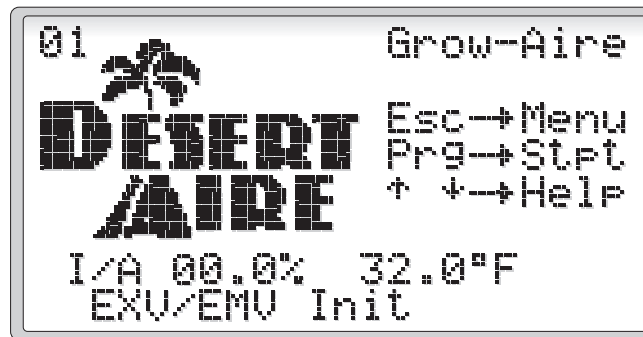

Figure 1
2.1 Menu Overview and General Instructions (Figure 1)
Your Desert Aire controller is pre-programmed and configured at the factory for use in the application you have specified. The internal display terminal (IDT, see Figure 1) allows the operator to monitor and adjust the setpoints of your Desert Aire system. The IDT has an LCD screen and six keys. These keys are labeled as below:
The Home Screen (Figure 1) displays the Desert Aire logo and shows the dehumidifier status, intake temperature and relative humidity and the operational state of the unit. The right side of the display shows “Esc → Menu” which indicates that if the **Esc** key is pressed, the Main Menu will be displayed. Pressing **Esc** on any other screen will take you back one screen. The “Prg → Stpt” indicates that if the **Prg** key is pressed, the setpoints can be changed. The “↑ ↓ → Help” indicates that if the **UP** or **DOWN** keys are pressed, the help screens will be shown. The **UP** and **DOWN** keys will now scroll through the help screens.